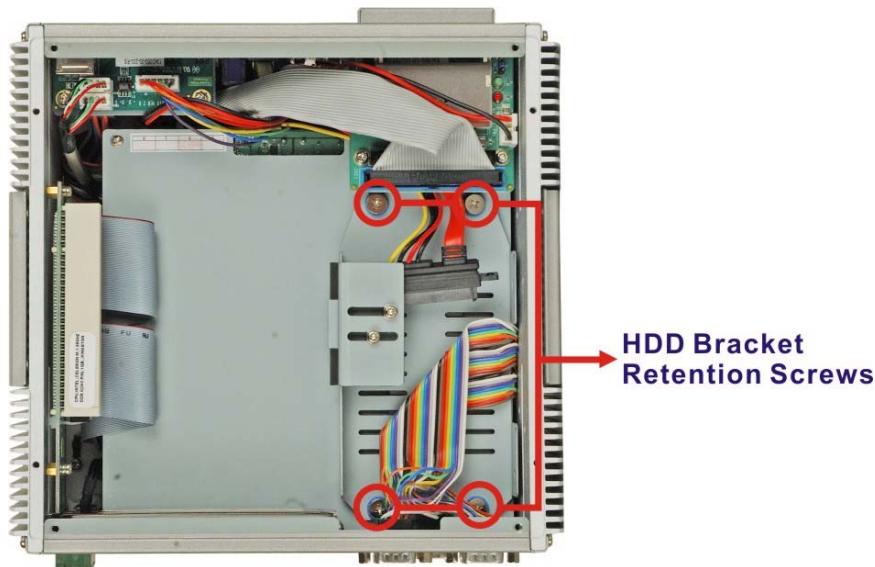

Figure 4-6: HDD Bracket Retention Screws
Step 3: Remove the HDD bracket by removing the four retention screws (Figure 4-6).